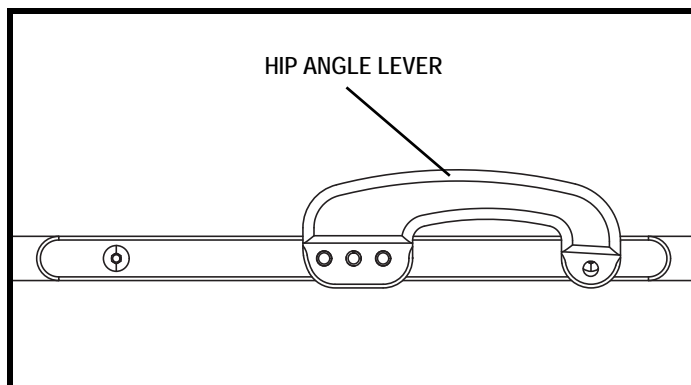

Figure 11. Kids UP Hip Angle Lever (Latched)
2. Lift upward on the hip angle lever, which is located on the back of the wheelchair. **See figure 11.**
2. While supporting the child’s weight, pull up the hip angle lever. **See figure 11.**
4. Verify the lever has returned to the latched position. **See figure 11.**